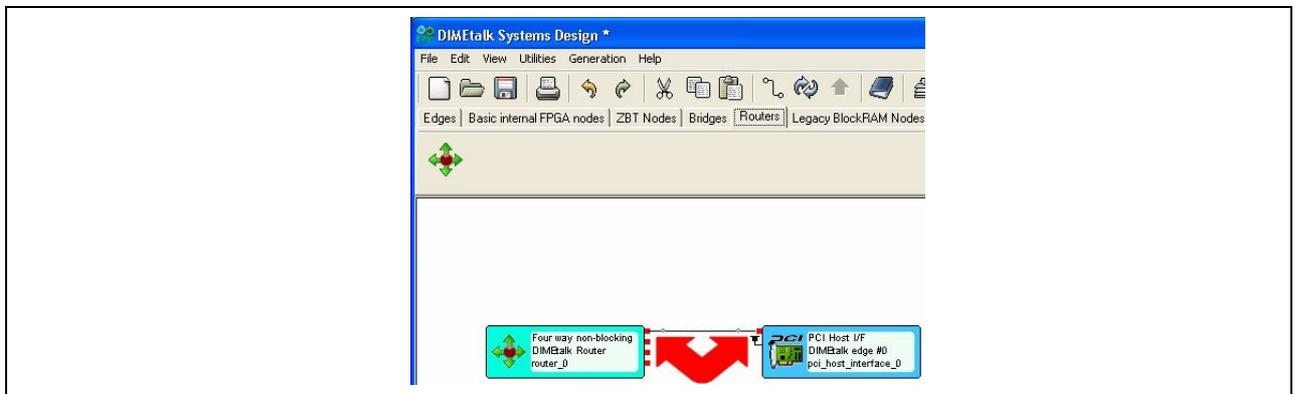

Figure 27: Connect Components
4. When the cursor turns into a cross and the name of the component appears, release the mouse button to join the two components. To put an 'elbow' in a wire click on one of the dots on the wire and drag the wire to the appropriate place as shown in **Figure 27**.